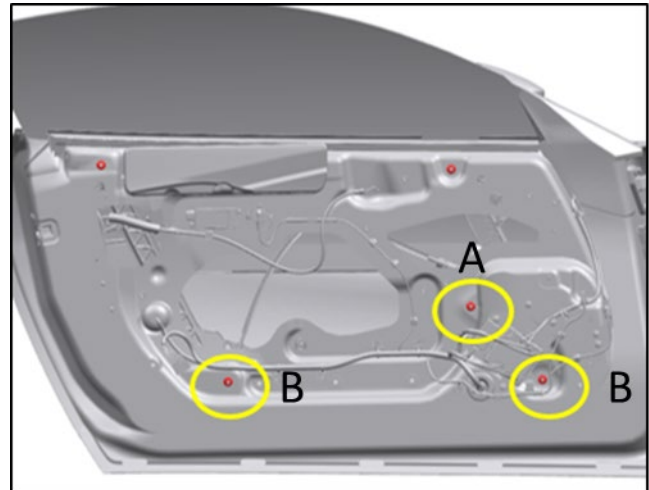
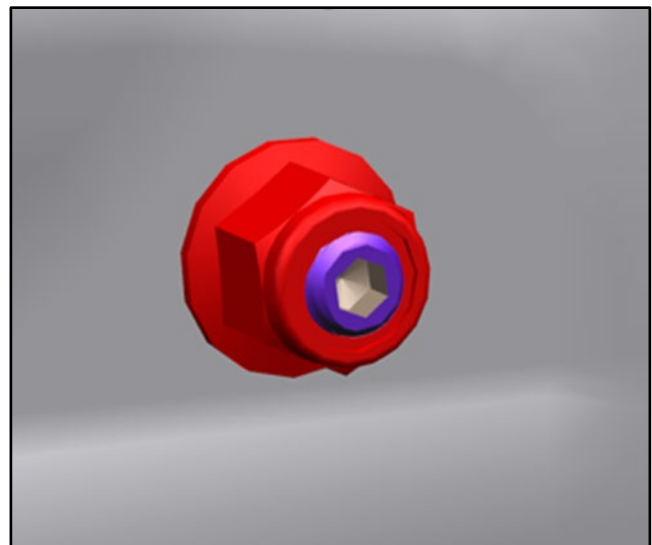

Figure 6
Figure 7
- 15. Identify the three lower regulator fixings on the inner door panel. (Refer to Figure 6 and Figure 7.)
CAUTION: IN THE STEP THAT FOLLOWS MAKE SURE THAT FIXING “A” IS ADJUSTED BY HALF OF ANY ADJUSTMENT TO THE TWO FIXINGS “B”. (REFER TO FIGURE 6.) IF YOU DO NOT DO THIS THE REGULATOR RAIL CAN GET TWISTED.